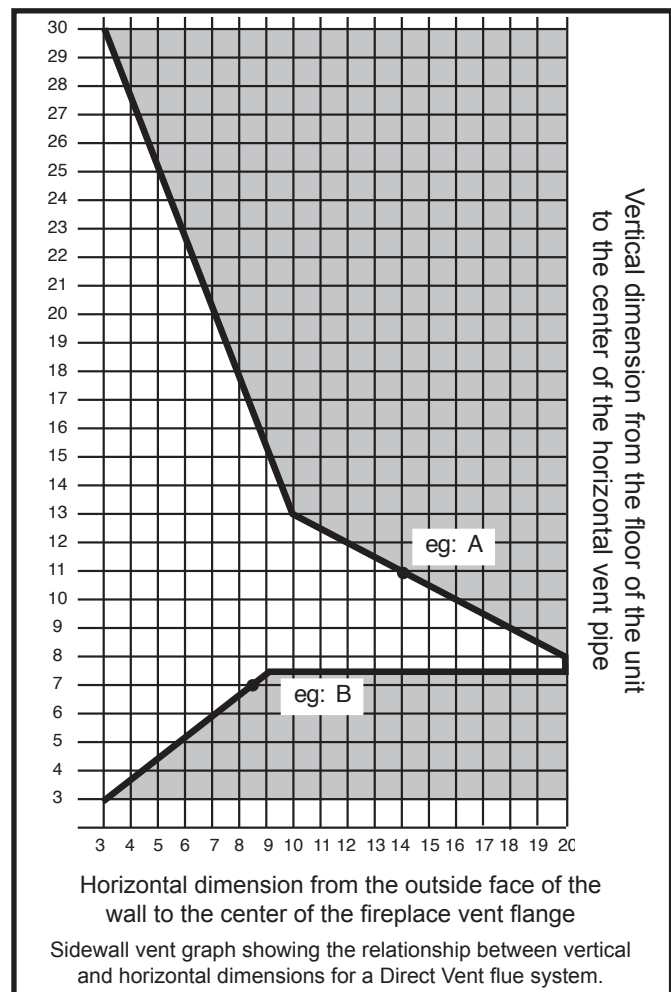

Fig. 11 Sidewall venting graph. (Dimensions in feet)
1. Determine the height of the center of the horizontal vent pipe exiting through the outer wall. Using this dimension on the Sidewall Vent Graph (Fig. 11) locate the point intersecting with slanted graph line.